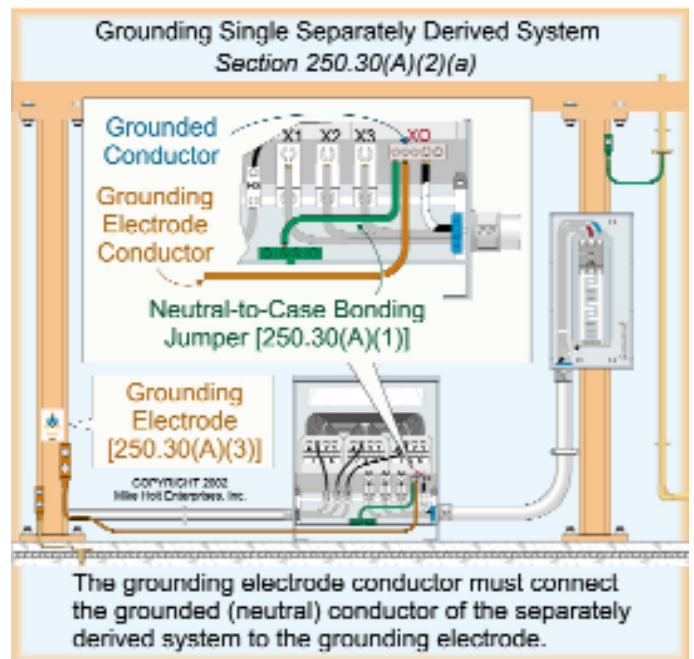

Figure 250-81
- (2) **Grounding.** To stabilize the line-to-earth voltage during normal operation, a grounding electrode conductor shall ground the separately derived system grounded (neutral) conductor to a suitable grounding electrode.
- (a) **Single Separately Derived System.** The grounding electrode conductor for a single separately derived system shall be sized in accordance with 250.66, based on the area of the largest separately derived ungrounded conductor. This conductor shall ground the grounded (neutral) conductor of the separately derived system to a suitable grounding electrode as specified in 250.30(A)(4). Figure 250-81